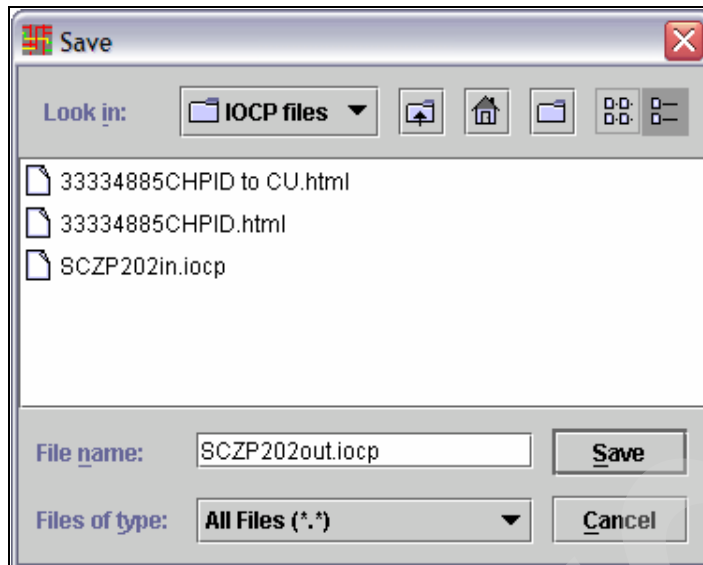

Figure 4-70 CMT - Save IOCP output file
2. Enter the File name and location for the IOCP output file, and click **Save** (Figure 4-70).